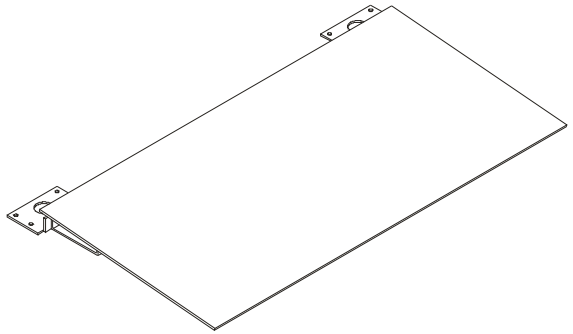

FIG. 25 RAMP WITH RETAINER PLATES
- Step 2. Place the ramp in position, then lift and set the platform feet into the foot retainer plate holes. (See Fig. 25)